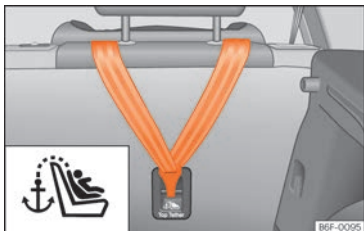

Fig. 29 Back of the rear seats: Top Tether securing rings.
- Slide the strap and secure it properly with the anchorage of the backrest »» Fig. 29.